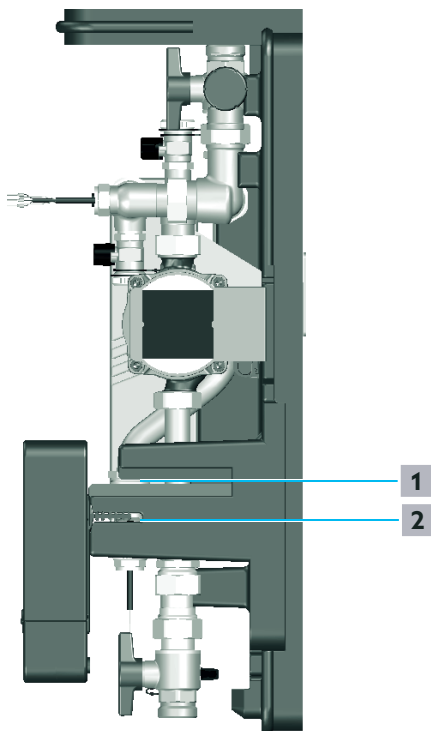

Fig. 23: Mounting position
- 2 Turn the controller and fix it in the mounting position as shown in Fig. 23 on page 31.